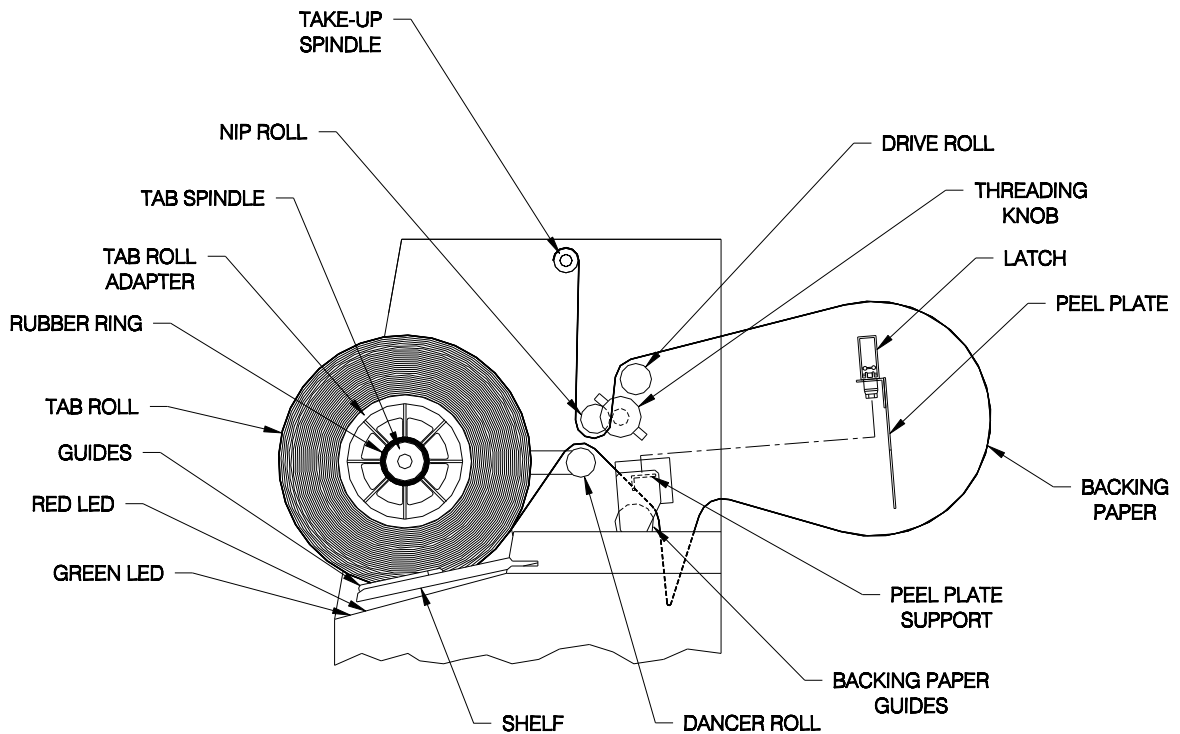

Figure 6.2 - Threading Tabs
4. Pull the SHELF down. Place the TAB ROLL ADAPTER (rim away from you) with the TAB ROLL attached on the TAB SPINDLE. (Refer to **Figure 6.2.**)
6. Pull up the LATCH on the PEEL PLATE ASSEMBLY and lift the PEEL PLATE ASSEMBLY out of its slot. (Refer to **Figure 6.2.**)
7. Thread the backing paper over the DANCER ROLL. (Refer to **Figure 6.2.**)
8. Thread the backing paper over the BACKING PAPER GUIDES. Slide the BACKING PAPER GUIDES against the backing paper. (Refer to **Figure 6.2.**) There are notches for 1.125" (1" tab) and 1³/₄" (1.5" tab) wide backing paper, but you can use any backing paper between 1" and 1³/₄" wide. The BACKING PAPER GUIDES will stay in place if there are no notches for the backing paper width.
9. Thread 6-8" of backing paper away from the input end and place the PEEL PLATE ASSEMBLY in its slot. Use the PEEL PLATE ASSEMBLY to push the backing paper toward the peel point. Press down and lock the LATCH. (Refer to **Figure 6.2.**) At this point, the backing paper should be over the BACKING PAPER GUIDES, under the PEEL PLATE ASSEMBLY and up towards the TAKE-UP SPINDLE.
10. Thread the backing paper over the DRIVE ROLL. (Refer to **Figure 6.2.**)
11. Turn the THREADING KNOB *counterclockwise* and thread the backing paper between the NIP ROLL and the THREADING KNOB metal bar. (Refer to **Figure 6.2.**) When you release the THREADING KNOB, the gap between the DRIVE ROLL and the NIP ROLL closes.